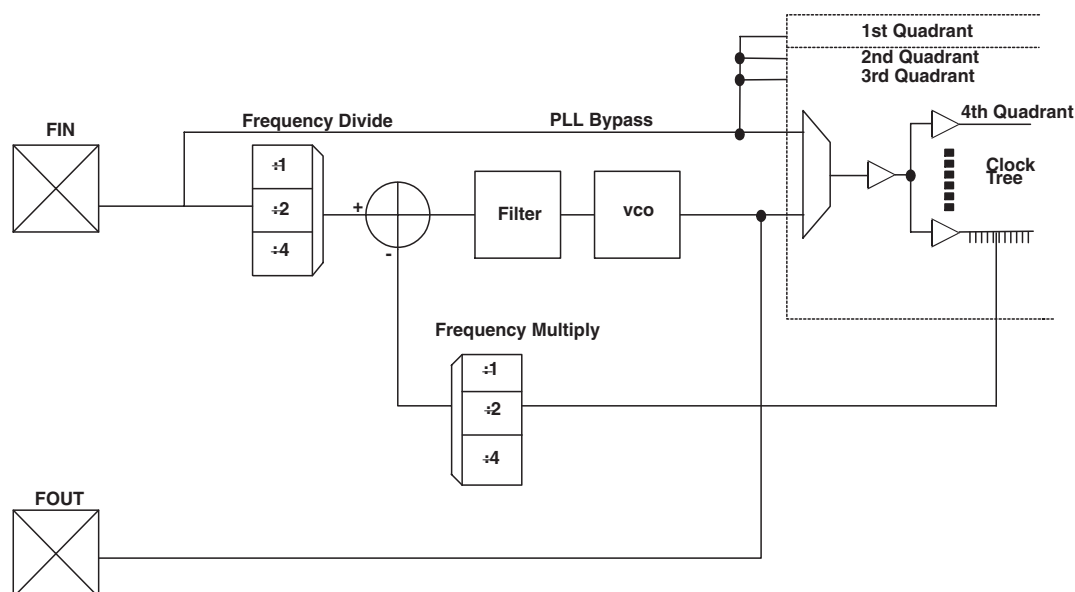

Figure 17: PLL Block
Figure 17 illustrates a typical QuickLogic ESP PLL.
Within the PLL, a voltage-controlled oscillator (VCO) is added to the circuit. The external F_{in} signal and the local VCO form a control loop. The VCO is multiplied or divided down to the reference frequency, so that a phase detector (the crossed circle in Figure 17) can compare the two signals. If the phases of the external and local signals are not within the tolerance required, the phase detector sends a signal through the charge pump and loop filter (Figure 17). The charge pump generates an error voltage to bring the VCO back into alignment and the loop filter removes any high frequency noise before the error voltage enters the VCO. This new VCO signal enters the clock tree to drive the chip's circuitry.
Most QuickLogic products contain four PLLs, one to be used in each quadrant. The PLL presented in Figure 17 controls the clock tree in the fourth Quadrant of its ESP. As previously noted, QuickLogic PLLs compensate for the additional delay created by the clock tree itself by subtracting the clock tree delay through the feedback path.
a. The data provided in **Table 17** are JEDEC and PCI Specifications. QuickLogic devices either meet or exceed these requirements. See preceding **Table 1** through **Table 13** and **Figure 1** through **Figure 17** for data specific to QuickLogic I/Os.